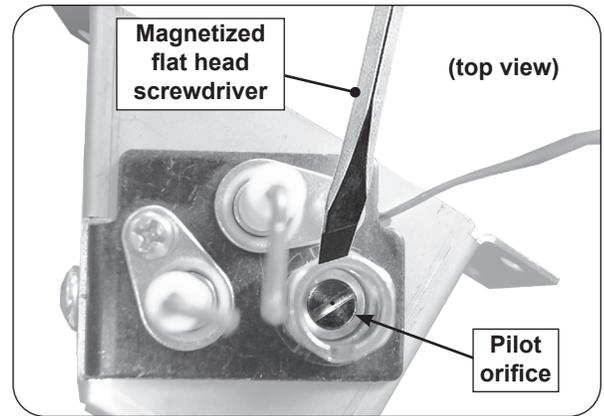

Fig. 3-1 Remove old and install new pilot orifice
3. Using a magnetized flathead screwdriver, unscrew and remove the pilot orifice (see Fig. 3-1).
4. Insert the new pilot orifice and tighten (see Fig. 3-1).